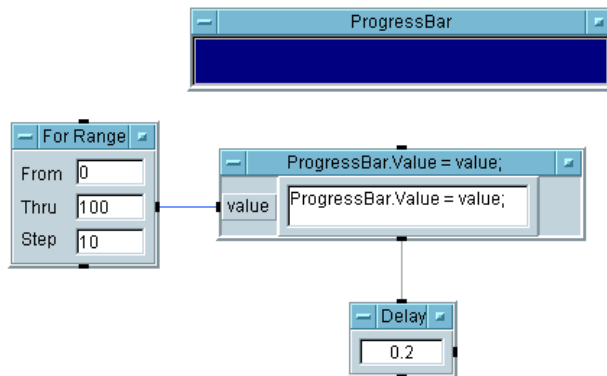

Figure 245 Using the ActiveX Control “ProgressBar”
- 5 To slow down program execution so that you can see the ProgressBar updating, select **Flow** ⇒ **Delay** and place the object to the right of the **For Range** object. Set it to .2. Connect the ProgressBar sequence output pin to the Delay object sequence input pin, as shown in Figure 245, and run the program.